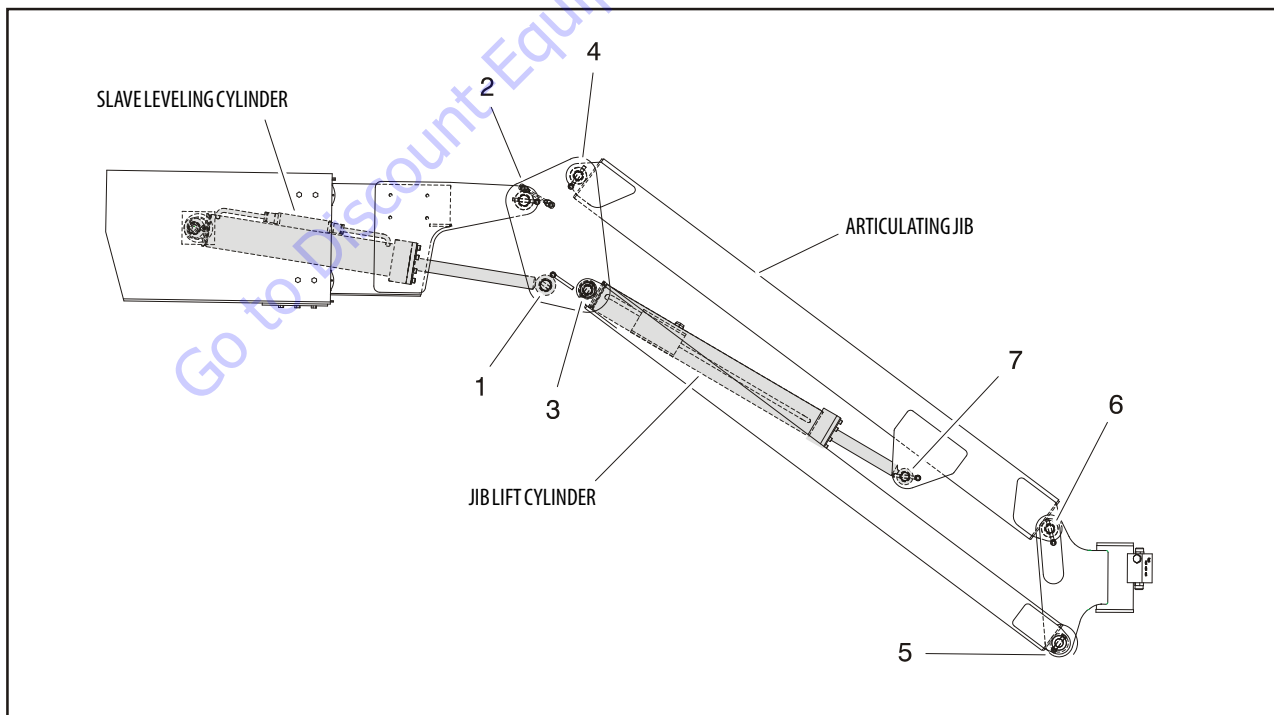

Figure 4-13. Location of Components-Articulating Jib
**NOTE:** Pin numbers listed in the following procedures are referenced in Figure 4-13., Location of Components-Articulating Jib.